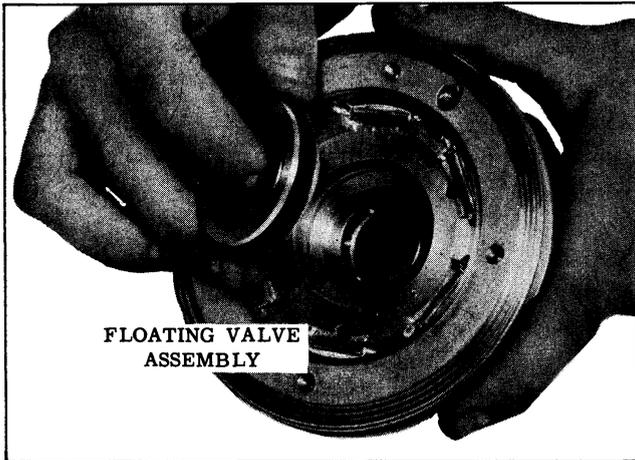

Fig. 7-20 Removing Floating Valve Assembly
11. Pull the floating valve assembly from the vacuum piston. (See Fig. 7-20)